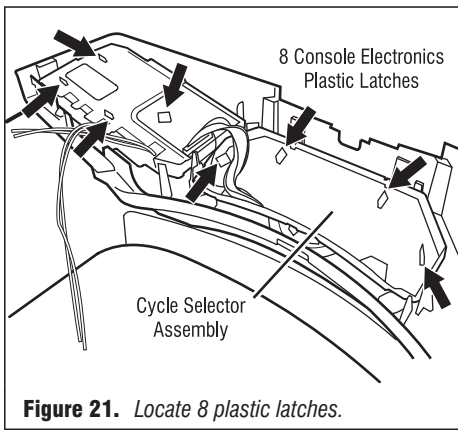

Figure 21. Locate 8 plastic latches.
- The console electronics is split into two assemblies connected by two cables. Each assembly is fastened to the decorative piece by four plastic latches. To remove these assemblies, gently compress the plastic latches while pulling up on the assembly. For the cycle selector assembly, the cycle selector knob must first be removed by firmly pulling on it or gently prying it straight upward. See figure 21, page 11.